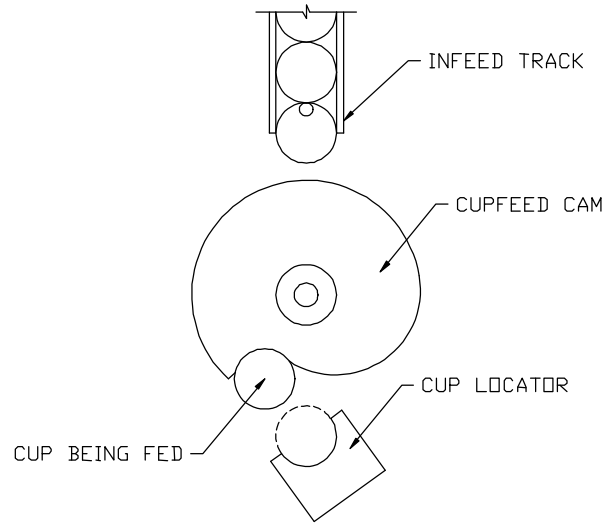

Figure 4 - Location of Cupfeed Cam at "Cupfeed Time" Position
- 2) Using the "Manual Cupfeed" push-button, feed one cup into the cupfeed cam and rotate the cam by hand until the cup is fully loaded into the cam. Rotate the cupfeed cam (with the cup loaded) into the position where the cup would first be loaded into the cup locator (see figure 4).